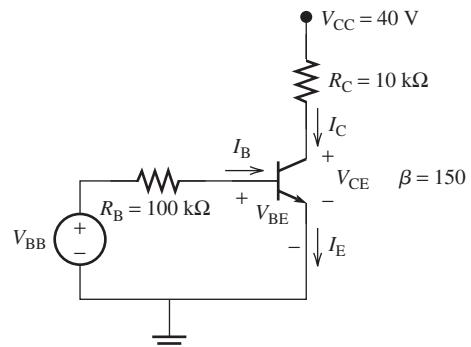

FIGURE P8.38 The circuit for Problem 8.38.
- 8.38** (A) For the circuit shown in Figure P8.38, find V_{BE} , I_B , I_C , and V_{CE} when: